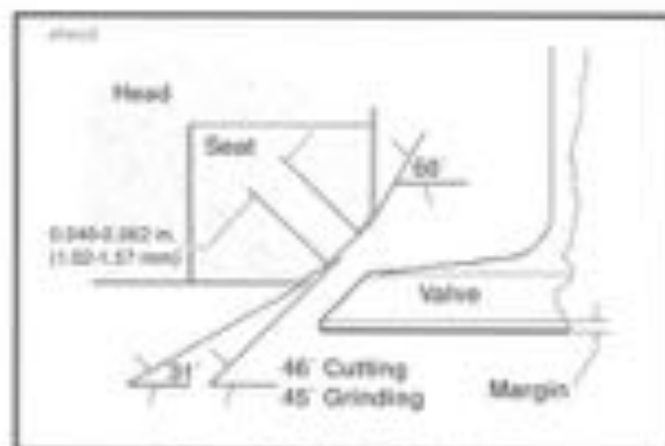

Figure 3-20. Valve Seat Angles
See Figure 3-20. Correct 3-angle valve seat angles are shown. Use NEWAY VALVE SEAT CUTTERS, which are part of NEWAY VALVE SEAT CUTTER SET, (Part No. 4D-3675B) to cut the seats. Always grind valves before cutting seats.
3. See Figure 3-20. Check the contact pattern on valve face. It should be 0.040-0.062 in. (1.02-1.57 mm) wide, and its center should be positioned 2/3 of the way toward the outside edge of face.